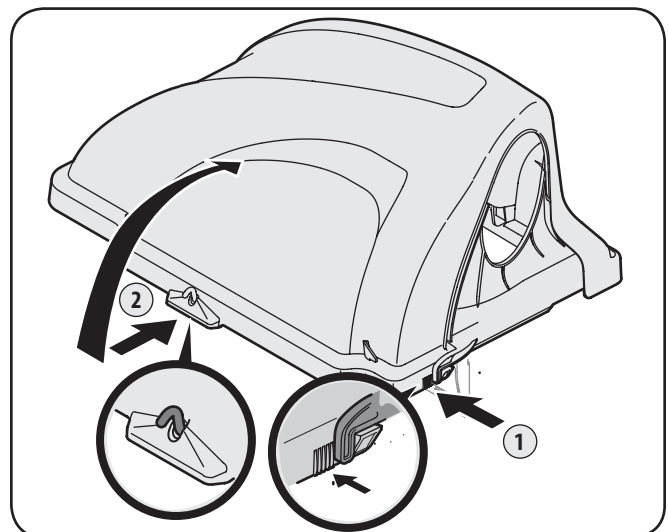

Figure 4-12
7. Open Hood by pushing in on the rear, right-side tab with your right hand, as seen in 1 of Figure 4-12, and lifting the cover with your left hand in the center rear of the bagger cover, 2.